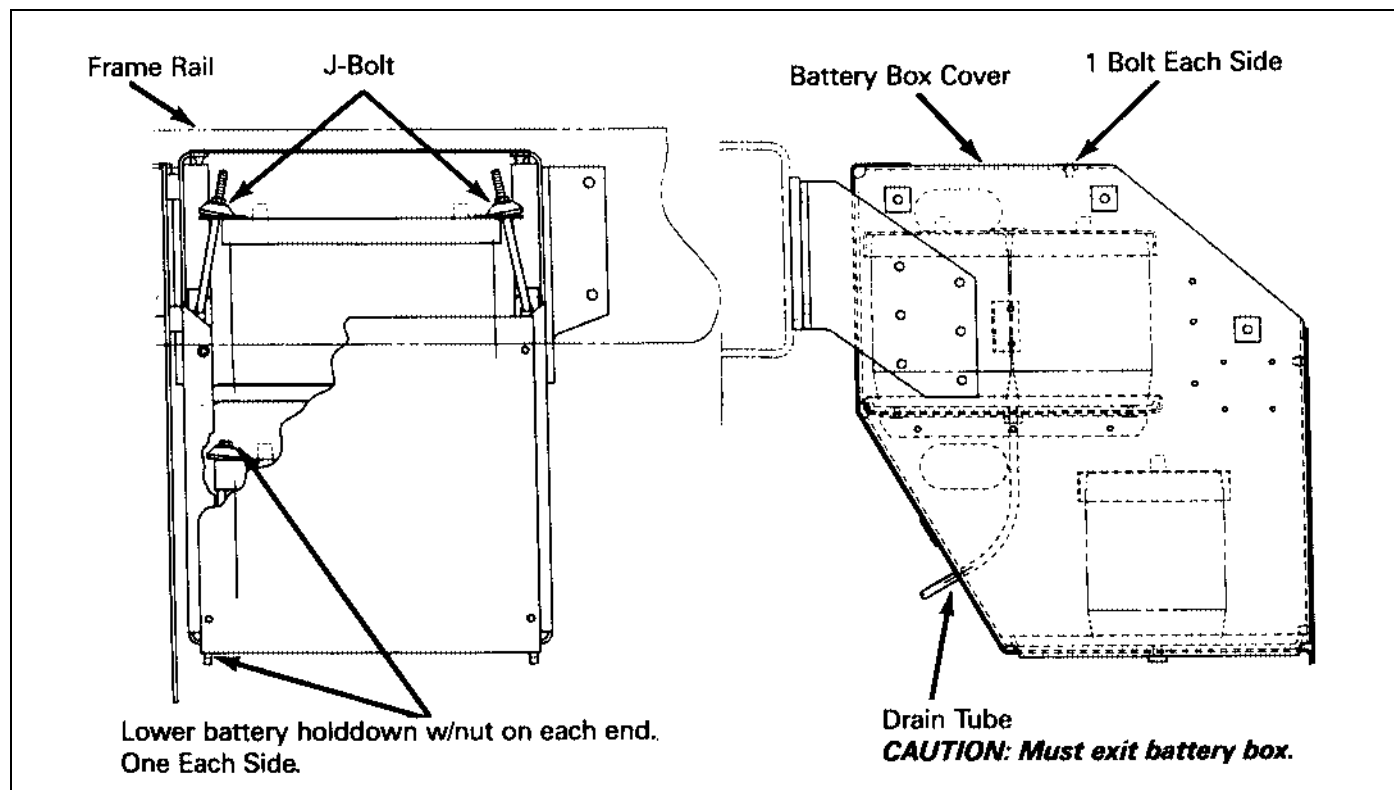

Figure 15-2
3. Remove 2 bolts on battery box cover. See Figure 15-2.
7. Loosen the J-bolts securing battery holddown in the top tray. See Figure 15-2.
12. Remove lower battery holddown. One each side with nut on each end. See Figure 15-2.
5. Locate drain tube in center of upper battery tray and verify that drain tube exits the rear of the battery box. See Figure 15-2.